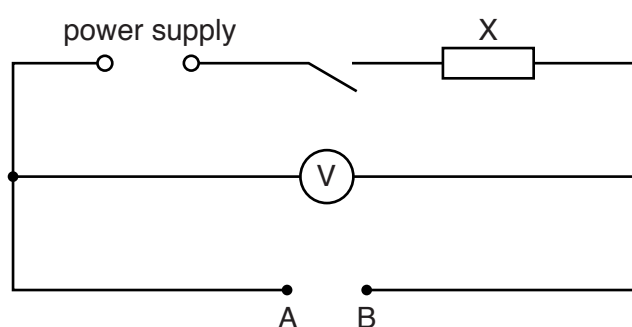

Fig. 4.1
Connecting leads to enable the Supervisor to set up the circuit shown in Fig. 4.1. The points A and B should be labelled and should have suitable terminals to connect to the resistors.
5. Before the start of the experiment and at the changeover, the Supervisor should set up the circuit as shown in Fig. 4.1. The additional resistors and the additional connecting leads (if present) should be laid out on the bench.